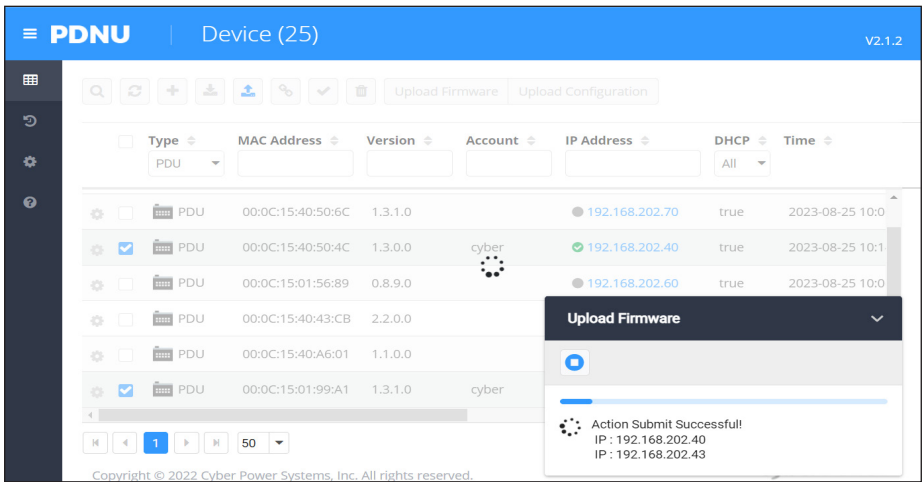

Figure 5
8. The upgrade progress bar will show in the lower right Upload Firmware window (Shown in Figure 5).